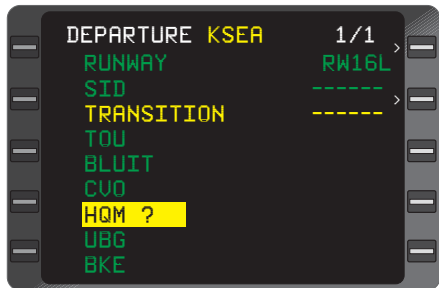

Figure 3-29
4. Line Select Key adjacent to the **TRANSITION** field - DEPRESS to position cursor over the current **TRANSITION** waypoint on the list. (Figure 3-29)